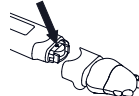

Figure 4
- Gently pull-out plastic circuit board with battery chamber approximately 1cm (slightly less than 1/2") (Figure 4).